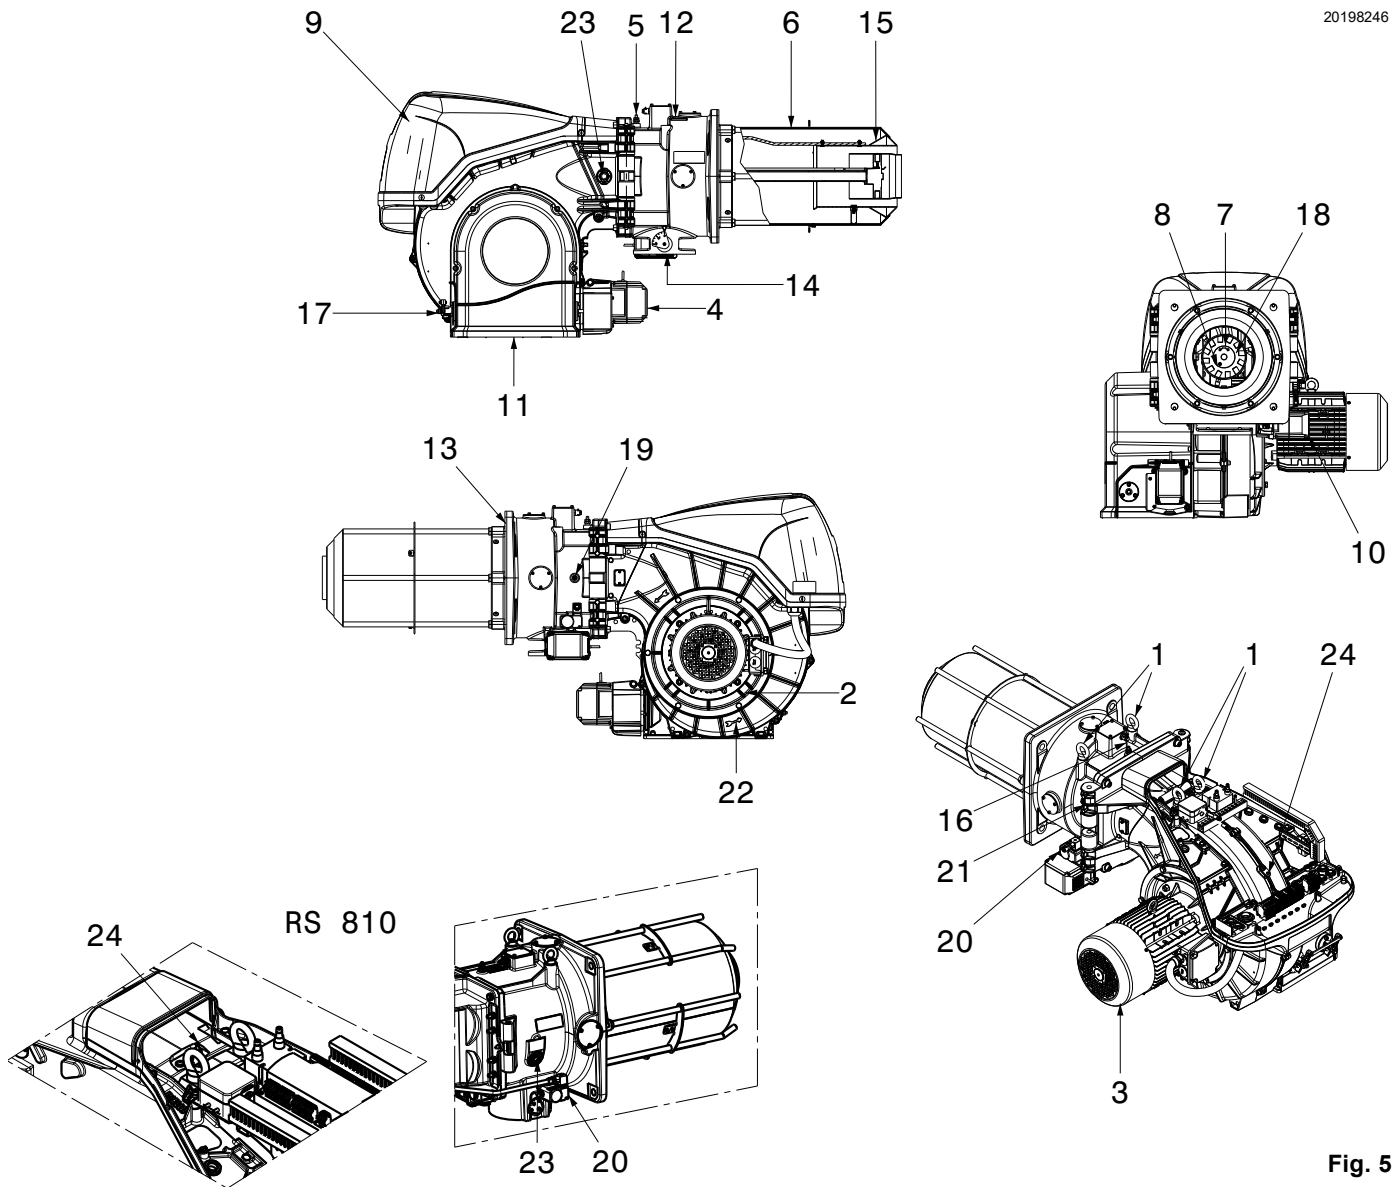

Fig. 5
- (1) Reference conditions: Room temperature 20°C - Gas temperature 15°C - Barometric pressure 1013 mbar - Altitude 0 m a.s.l.
- (2) Pressure at the test point 5)(Fig. 5 on page 11) with zero pressure in the combustion chamber and at maximum burner output.
- (3) Sound pressure measured in manufacturer's combustion laboratory, with burner operating on test boiler and at maximum rated output. The sound power is measured with the "Free Field" method, as per EN 15036, and according to an "Accuracy: Category 3" measuring accuracy, as set out in EN ISO 3746.
replace the GW 500 maximum pressure switch (Fig. 5 on page 11) installed on the burner with the GW 150 gas pressure switch supplied as equipment.